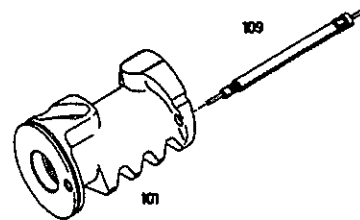

Fig.13
The tappet of the valve insert (109) (see Fig. 13) installed in piston (101) must not be damaged.
7.3 Check the valve insert (109) installed in piston (101) (see Fig.13) for radial or axial play, mechanical damage and any internal leaks.
Release caulking and screw valve insert (109) out of piston (101) with tool [2] (Fig.13).